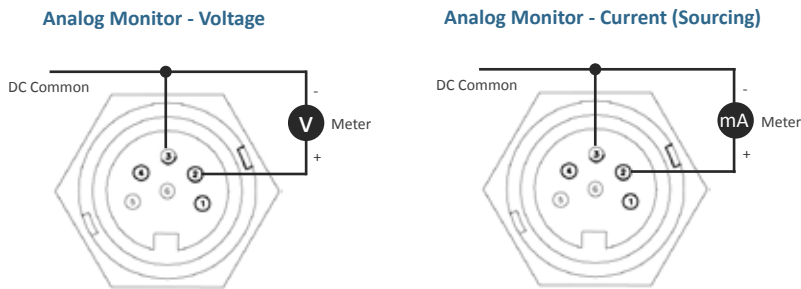

Figure 3
2. Figure 2 shows the location of the GP electrical connector and figure 3 shows the pin locations for Analog Monitor (left figure for voltage model and right figure for current model). TABLE 2 identifies the color codes.